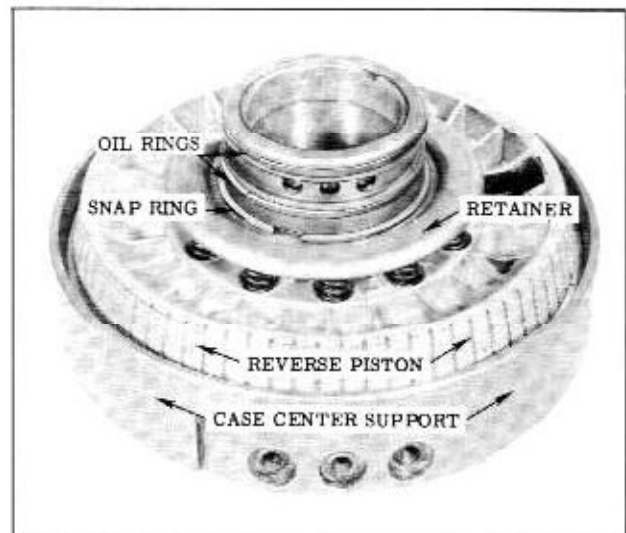

Fig. 3-67 Case Support and Reverse Piston
1. Remove 2 oil rings from hub of case support. (Fig. 3-67)